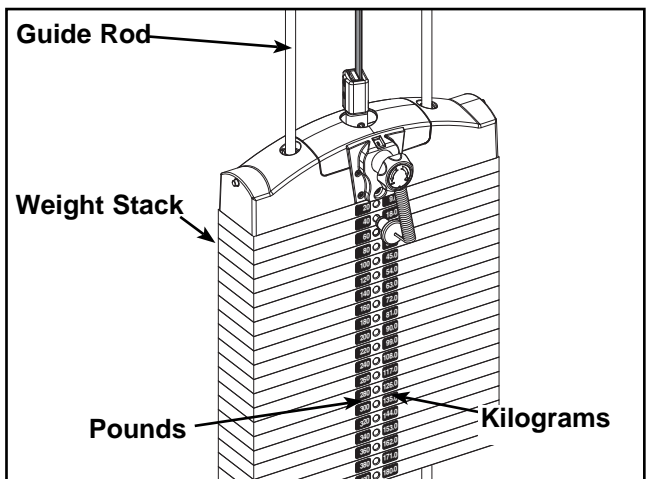

Figure 17
- E. Carefully remove front side, leaving decals adhering to weight plates. See Figure 17.\